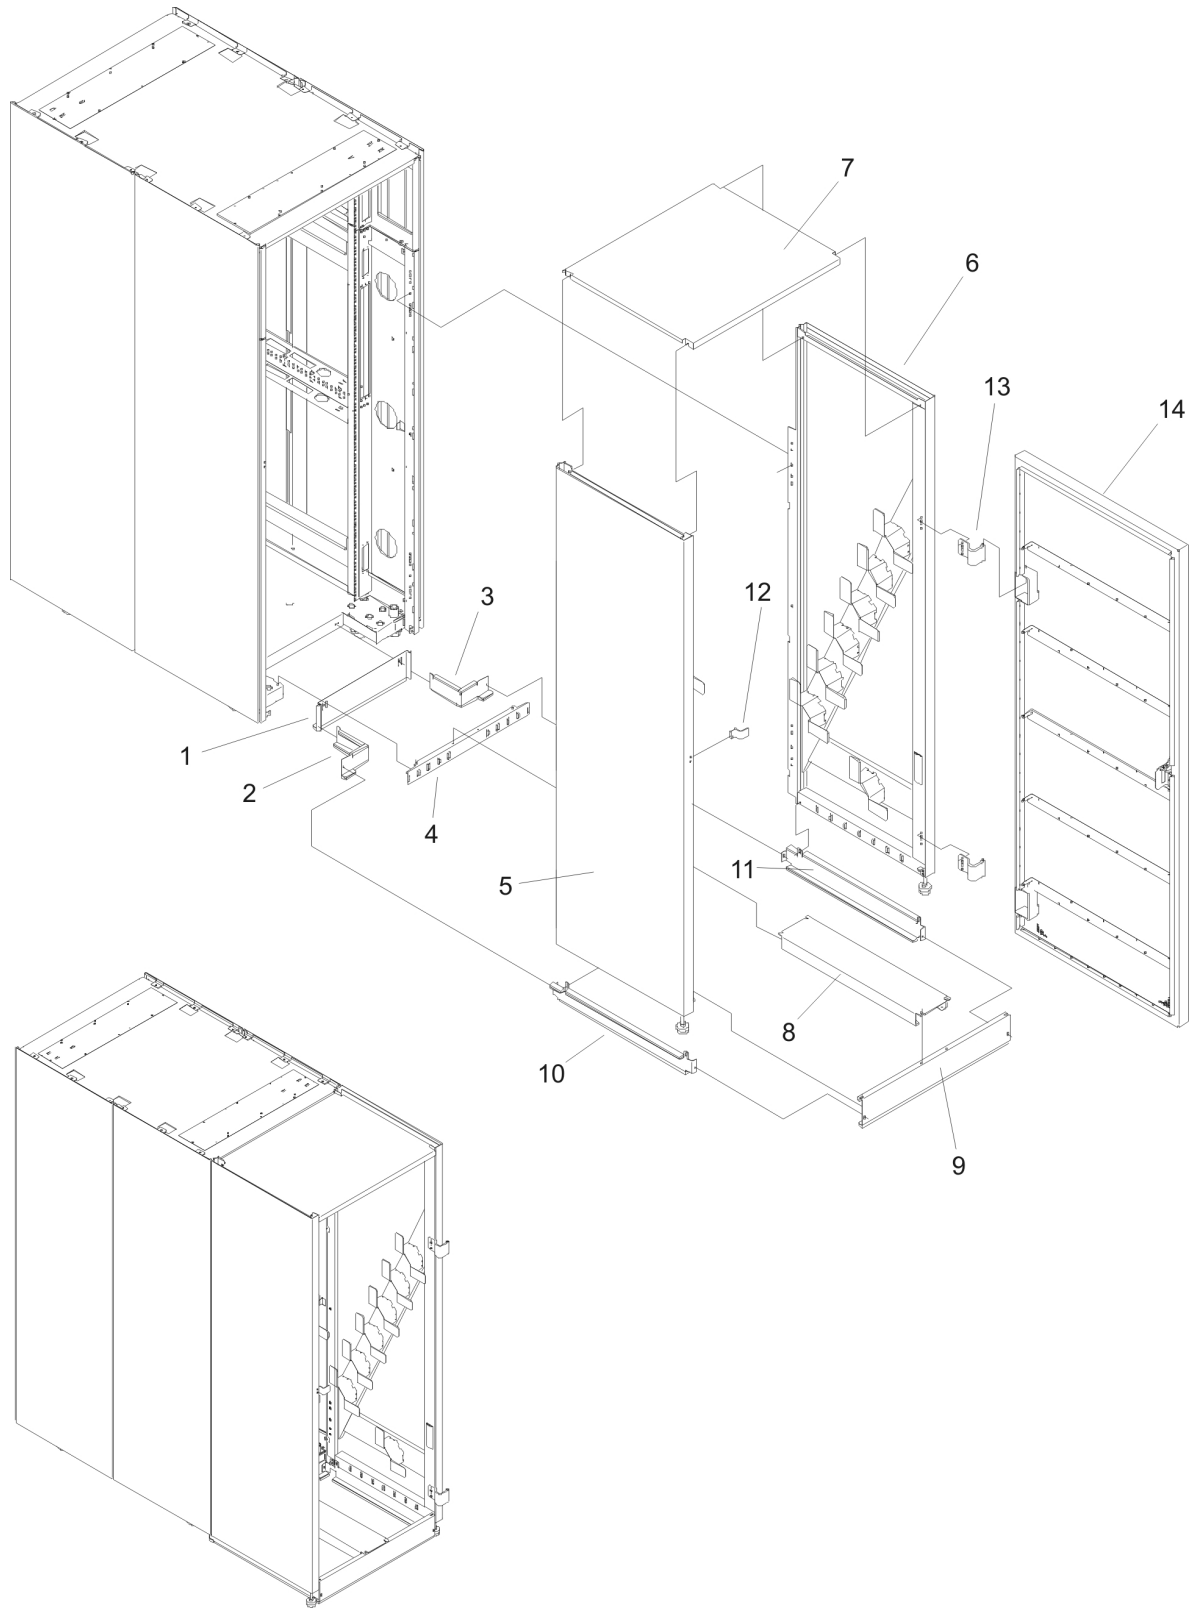

Figure 26. 24 inch powered expansion rack FC 5792/8691 frame with twenty-four inch extender
- Refer to 1 in Figure 26 on page 85
- Refer to 2 in Figure 26 on page 85
- Refer to 3 in Figure 26 on page 85
- Refer to 4 in Figure 26 on page 85
- Refer to 5 in Figure 26 on page 85
- Refer to 6 in Figure 26 on page 85
- Refer to 7 in Figure 26 on page 85
- | • Refer to 8 in Figure 26 on page 85
- | • Refer to 9 in Figure 26 on page 85
- | • Refer to 10 in Figure 26 on page 85
- | • Refer to 2 and 10 in Figure 26 on page 85
- | • Refer to 10 and 9 in Figure 26 on page 85
- | • Refer to 9 and 5 in Figure 26 on page 85
- | • Refer to 11 and 6 in Figure 26 on page 85
- | • Refer to 11 and 3 in Figure 26 on page 85
- | • Refer to 11 and 9 in Figure 26 on page 85
- | • Refer to 9 and 6 in Figure 26 on page 85
- | • Refer to 12 in Figure 26 on page 85
- | • Refer to 13 in Figure 26 on page 85
- | • Refer to 14 in Figure 26 on page 85